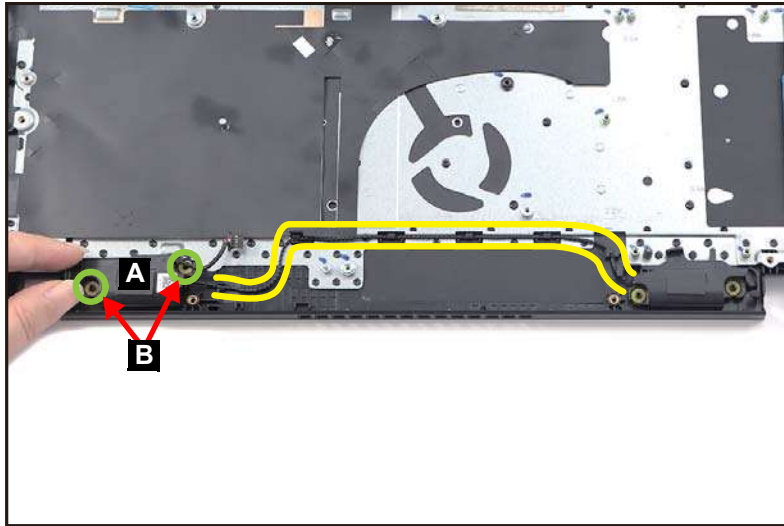

Figure 3-48. Speaker Module Removal
1. Release the left speaker (A) from the guide pins (B). Then unrout the speaker cable from the cable guides as shown in Figure 3-48.